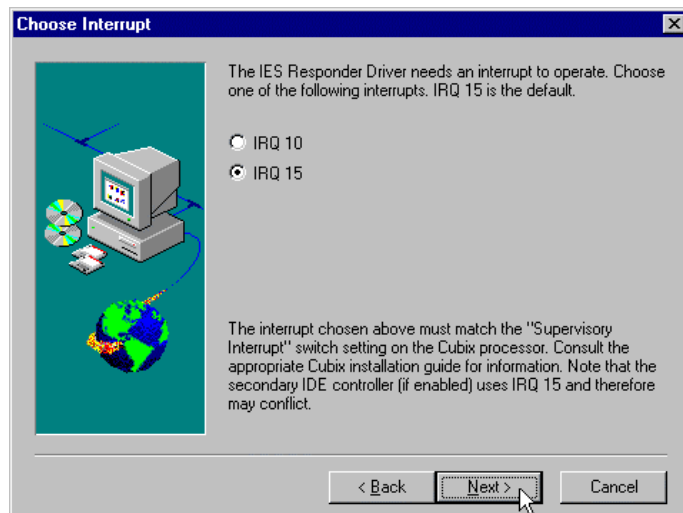

Figure 44 – Choose Interrupt dialog box
19. Select the correct interrupt value in the CHOOSE INTERRUPT dialog box. **IES RESPONDER** must use Interrupt (IRQ) 10 or 15 to operate properly. The interrupt value selected in this dialog box must match the interrupt value physically set on the computer board. Please refer to the appropriate documentation for determining the interrupt value of a computer board. Select the correct interrupt value for the configuration of the computer board by clicking in the appropriate radio button. Click **NEXT** to continue installation. See Figure 44.